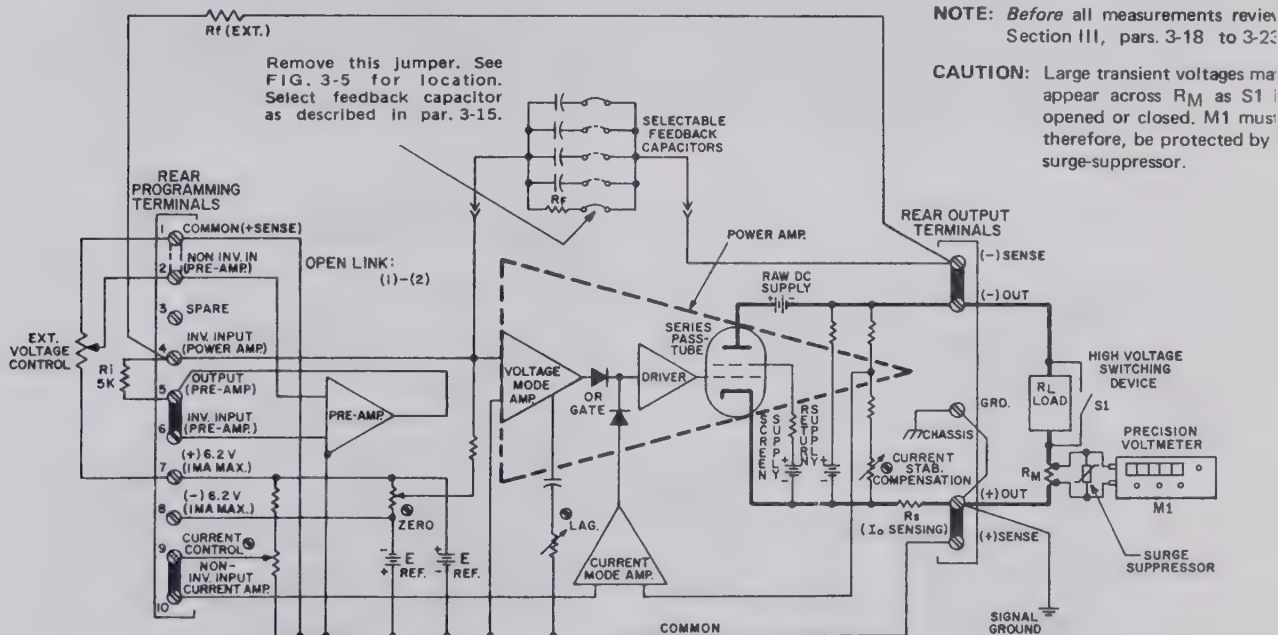

FIG. 3-6 TEST SET-UP FOR COMPENSATION ADJUSTMENT AND OUTPUT CURRENT STABILITY MEASUREMENTS.
3-22 The fixed feedback resistance of the OPS constitutes an internal shunt load in the current mode of operation. The shunt current thus flowing through the feedback resistance, if not compensated, produces an error proportional to the ratio of the feedback and the load resistance. The compensating circuit, provided in the OPS, is factory adjusted for best current stabilization with the built-in feedback resistor (R_f). If other feedback resistors are used, the compensating circuit may be readjusted for optimum output current stabilization using the test set-up shown in FIG. 3-6 and following the procedure described below.
- 1) Set up the test circuit shown in FIG. 3-6. Select R_L as required and let $R_M \approx 1 \text{ k ohm}$. Follow the turn-on procedure as described in par. 3-13. Set required compliance (load voltage) with the EXT. VOLTAGE CONTROL.